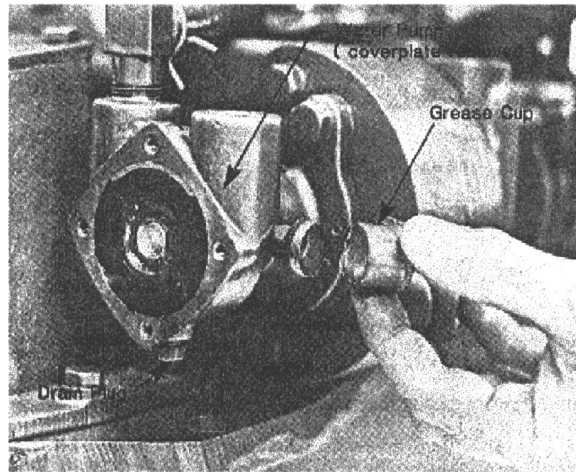

FIGURE 6 - WATER PUMP LUBRICATION
3. Water pump (see Figure 6). Check grease cup for adequate amount of grease. If the grease cup is turned in as Off as it will go, it should be refilled. Use a good grade of water pump grease.
Servicing Water Pump (see Figure 6)